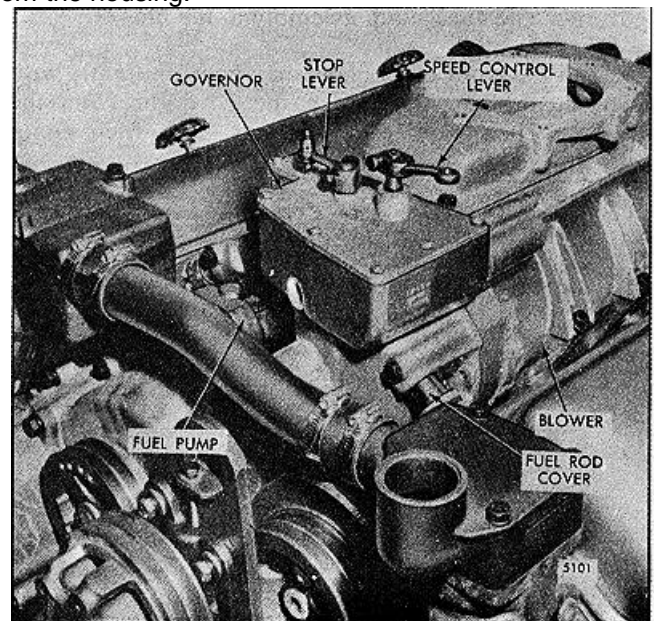

FIG. 5 Limiting Speed Mechanical Governor Mounting
3. Disconnect the control linkage from the speed control and stop levers (Fig. 5).